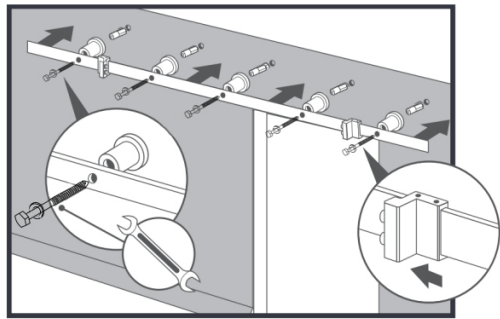

FIGURE 10
- Install the anchors into the holes using a hammer (see FIGURE 10). Gather the bolts, washers, and spacers and install the track following the instructions in FIGURE 10.